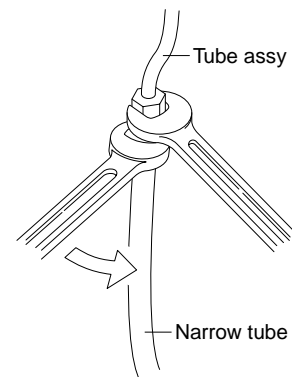

Fig. 32
7. Connect the narrow tube (3/8") between the units. When tightening the flare nut, use the double-wrench method. (Torque: 300 to 340 lbs.-in) (Fig. 32)